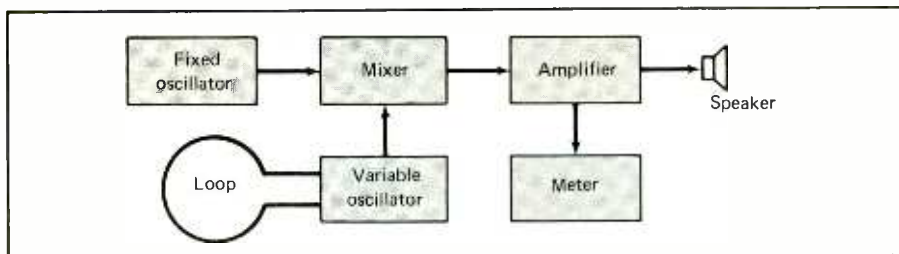

Fig. 1. Beat-frequency oscillator is approach commonly used in simplest metal-detector designs. It uses one fixed and one variable oscillators.
•Perhaps the simplest design approach is that of the *BFO* (beat-frequency oscillator) type of metal detector. This type of detector employs two oscillators, a mixer, an amplifier and a speaker and meter, either of which or both can be switched in by the user. (Some very inexpensive metal detectors omit the meter and provide audible indication only.) The block diagram of the BFO system is shown in Fig. 1.